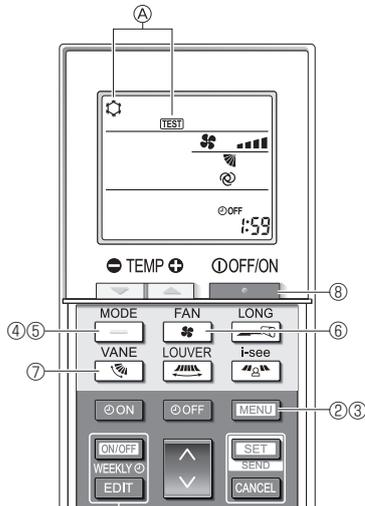

Fig. 7-9
- ① Turn on the power to the unit at least 12 hours before the test run.
- ② Press the **[MENU]** button for 5 seconds. (Fig. 7-9)
(A) [TEST] and the current operation mode are displayed. (Fig. 7-9)